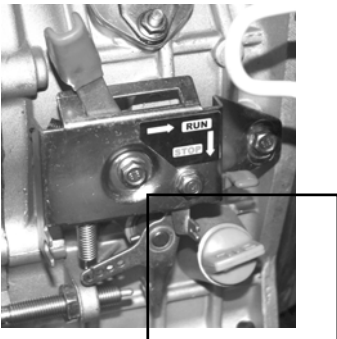

Figure 8
The oil level in this generator should be checked before each use. (See Figure 8.) When the oil level is low, add oil until the level is sufficient to operate this generator.
2. Unscrew the oil filler/dipstick cap from the engine as illustrated in Figure 8 below.